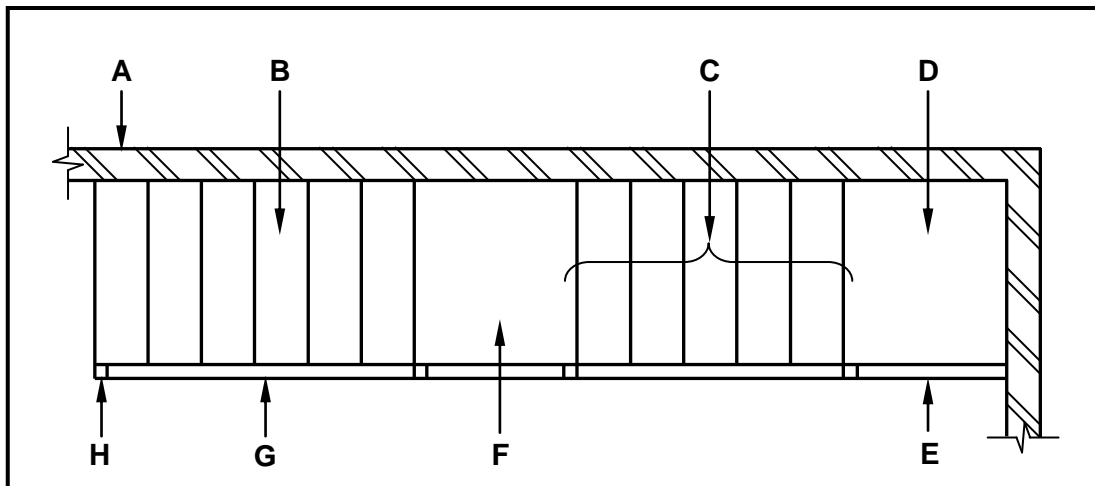

FIGURE 6.7
6.7 Study FIGURE 6.7 below. Match the word(s) in the list below with the labels in FIGURE 6.7. Write only the correct word(s) next to the label (A–H) in the ANSWER BOOK, e.g. J – Hatching.